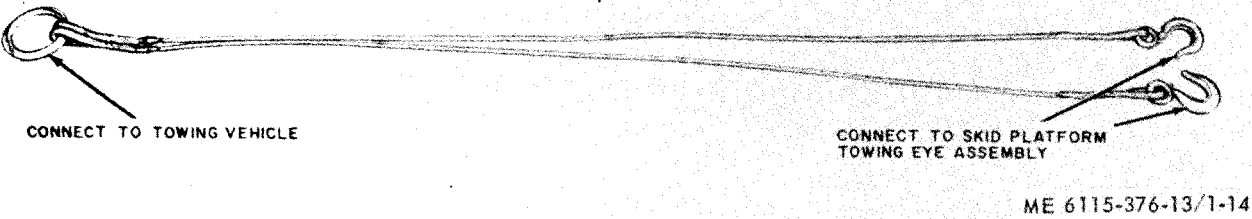

Figure 1-14. Towing cable assembly (PU-408/M, PU-700/M).
b. Towing Cable Assembly (PU-408/M, PU-700M). The towing cable assembly (fig. 1-14) is used to tow the skid platform from the truck bed when an appropriate lifting device is not available. It may also be used wherever vehicular towing of the skid platform is required.